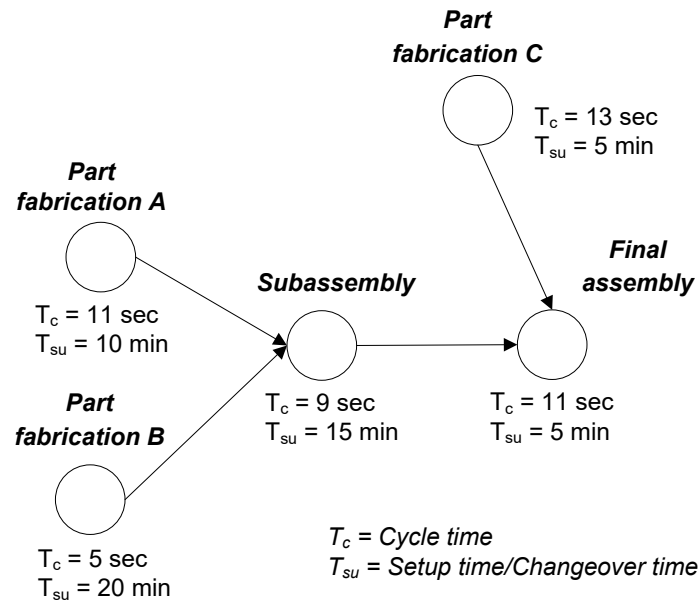

Figure 1
1. The electronics manufacturing enterprise devises a novel production system comprising three part-fabrication processes, one subassembly process, and one final assembly process; the process flow is illustrated in Figure 1. The enterprise is currently considering two cases with varying batch sizes: Case I, in which the batch unit is fifty, and Case II, in which the batch unit is one hundred. The production consists of 40 hours per week.